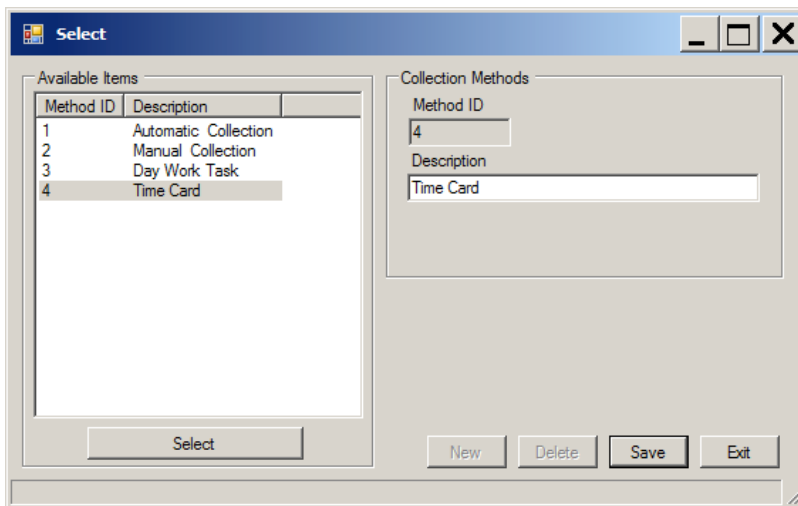

Figure 24. Collection Methods Select dialog.
5. Click **Select** (see Figure 24).